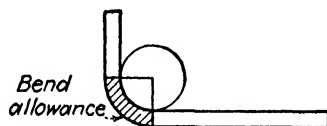

Fig. 240.
*Bend allowance* (B.A.) is the length of the curved part of the fitting. It is practically equal to the length of an arc of a circle as shown in Fig. 240.